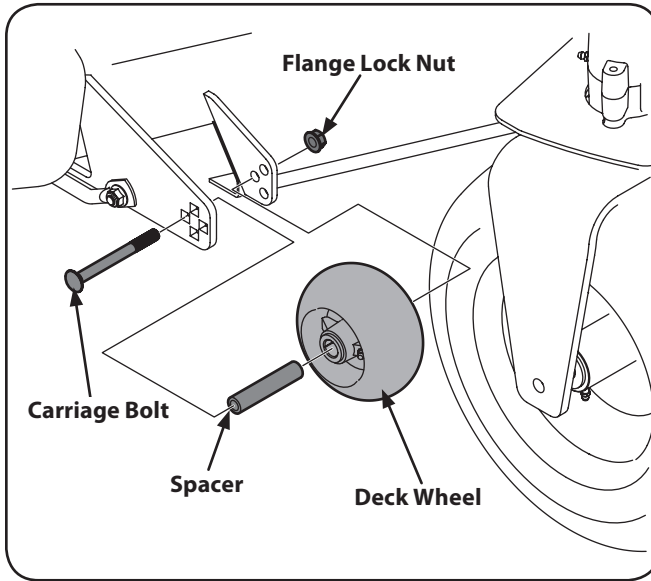

Figure 6-6
3. To remove the belt covers, remove the wing knob from the carriage screws securing it to the deck. See Figure 6-6.